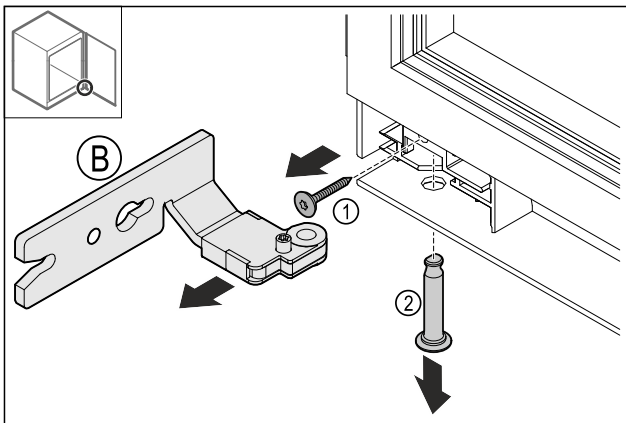

Fig. 17
- Remove the screw Fig. 17 (1).
- Remove the pin Fig. 17 (2).
- Remove the hinge Fig. 17 (B).